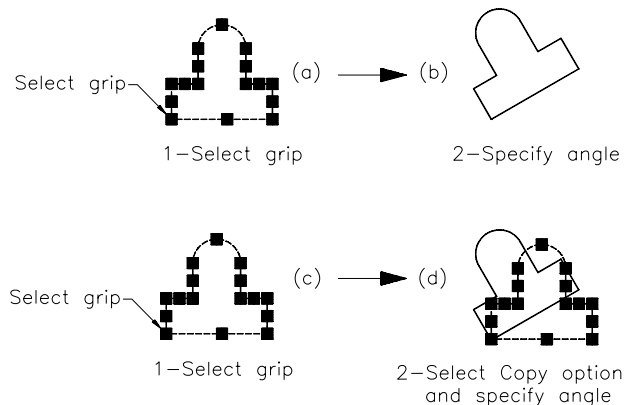

Figure 6-11 Using the **Rotate** mode to rotate and make the copies of the selected objects
1. Use the **LINE** command to draw the shape, as shown in Figure 6-11(a). When you select the objects, grips will be displayed at the definition points and the shape will be highlighted.
3. At this prompt, enter the rotation angle. By default the rotation angle will be entered through the dimensional input below the cursor in the drawing area. AutoCAD will rotate the selected objects by the specified angle [Figure 6-11(b)].
4. Make a copy of the original drawing, as shown in Figure 6-11(c). Select the objects, and then select the grip located at its lower left corner. Invoke the **Rotate** mode and then select the **Copy** option from the shortcut menu or enter **C** (Copy) at the Command prompt or the **Copy** option from the dynamic preview. Enter the rotation angle. AutoCAD will rotate the copy of the object through the specified angle [Figure 6-11(d)].